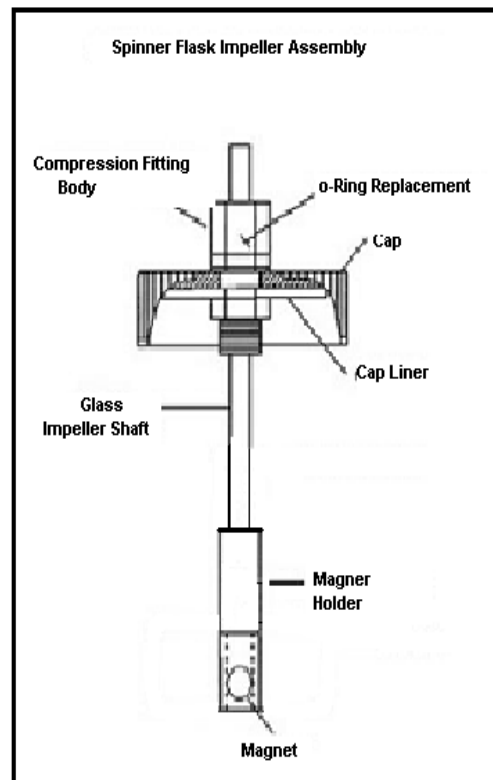

Figure 2: Spinner Flask Impeller Assembly
9.2. Figure 2: Spinner Flask Impeller Assembly (<http://www.bellcoglass.com/>)